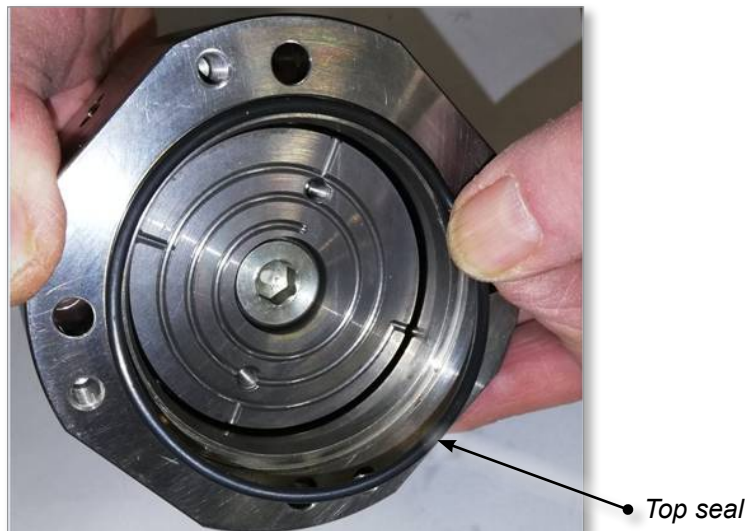

Figure 4-20 Install the top seal
2. Install the cylinder top seal. See Figure 4-20.